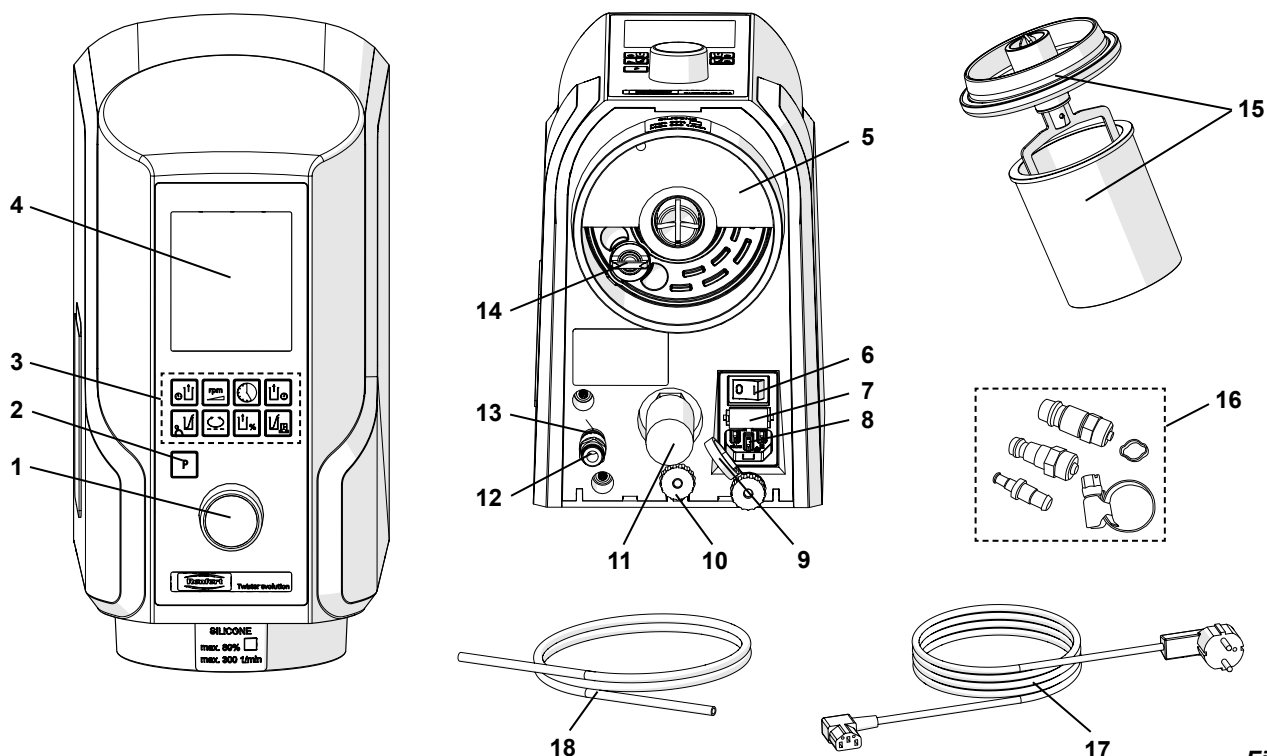

Fig. 1
- ⇒ Plug the compressed air tube (18) into the tube attachment on the compressed air connection (12) as far as it will go. There will be a slight resistance to overcome when attaching.
- ⇒ Select the proper coupling from the set (16, Fig. 1) provided and install it on the other hose end to connect it to the compressed air system.